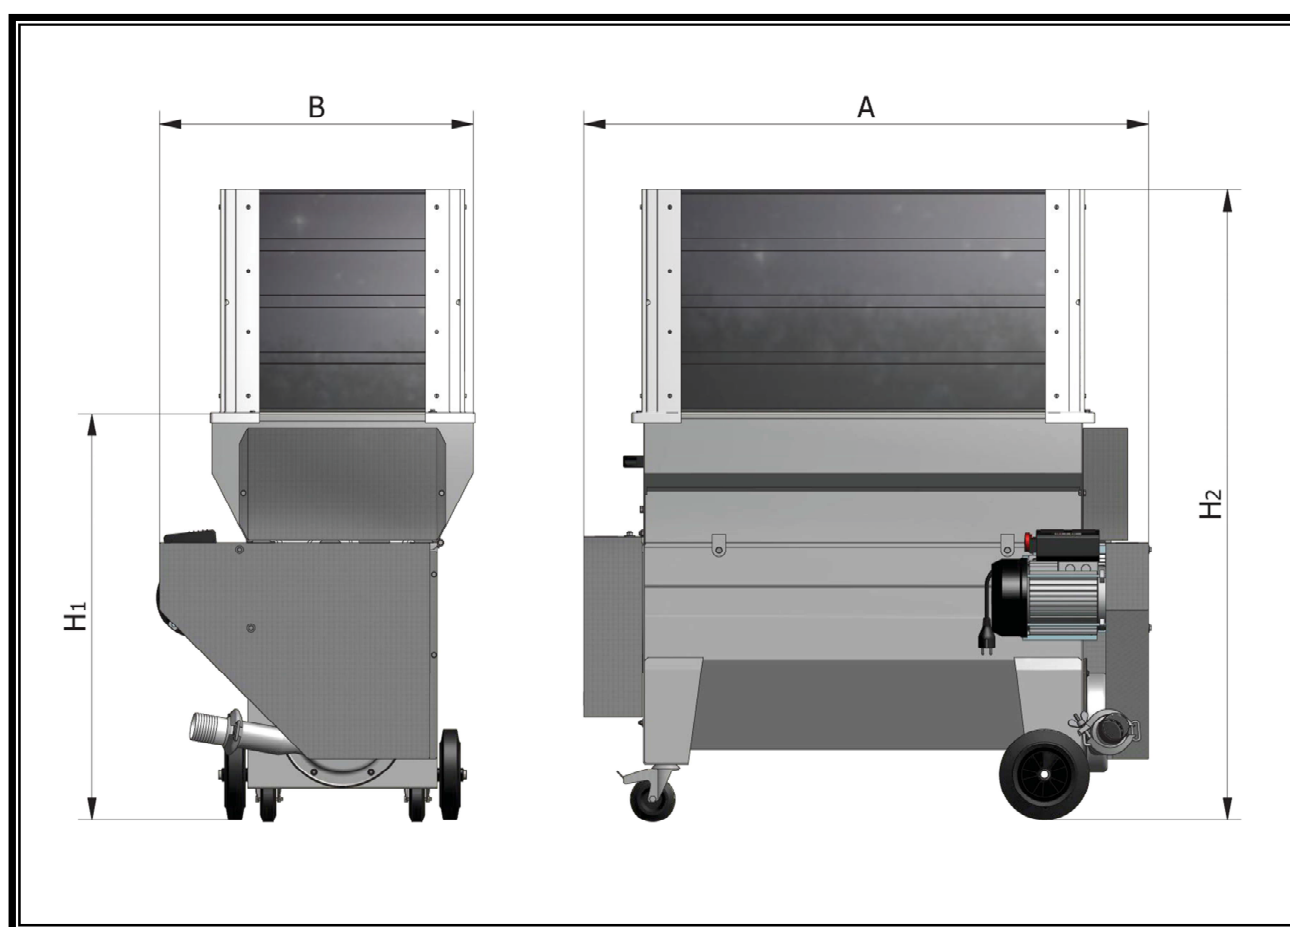

Fig. 2.2
2.2 TECHNICAL DATA SHEET (fig. 2.2)